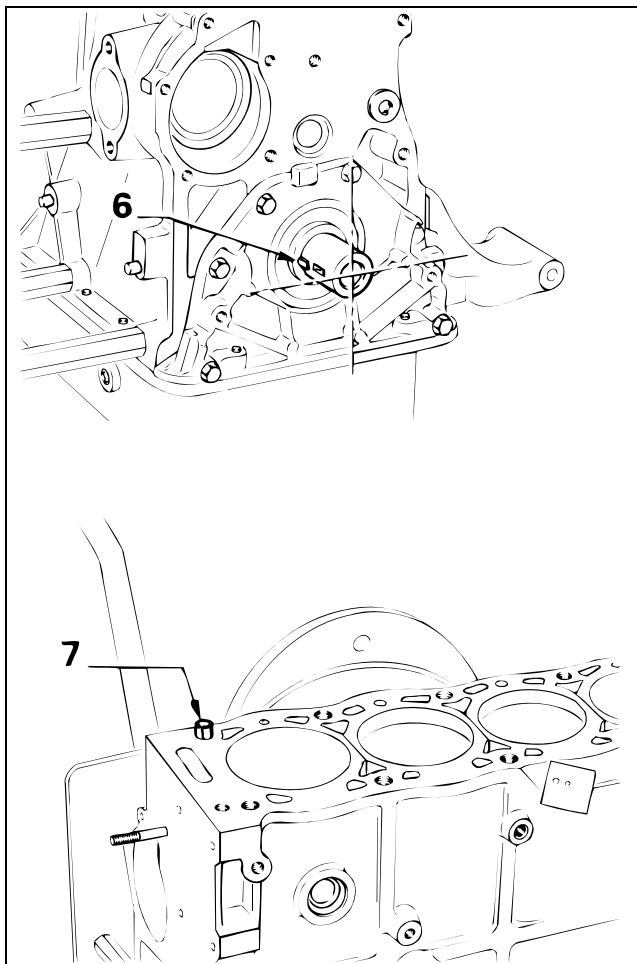

Figure 83
1. Turn the crankshaft to put the pistons at mid-stroke with damper pulley key (Fig. 83, Item 6) at the 9 o'clock position.